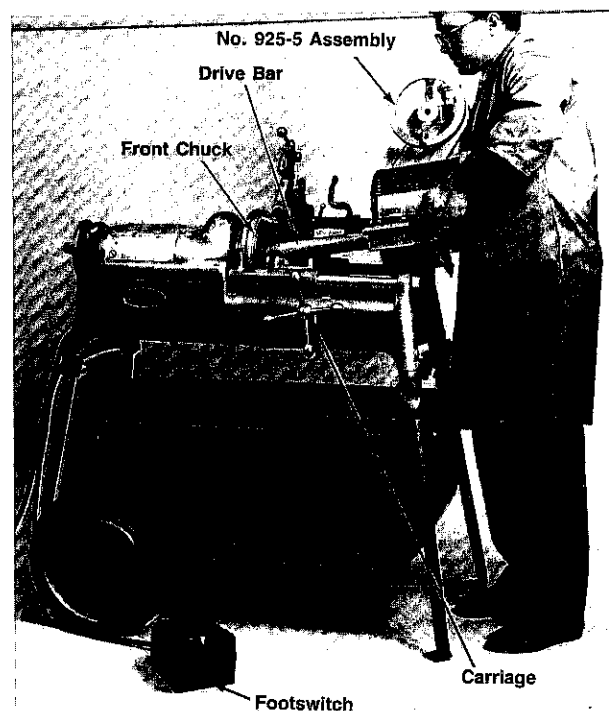

Figure 8. Installing No. 925-5
1. Position 925-5 so that drive bar is inserted in open chuck. Place No. 925-5 on far side of carriage rail and lower onto rear side rail and (Figure 8) tighten front chuck.